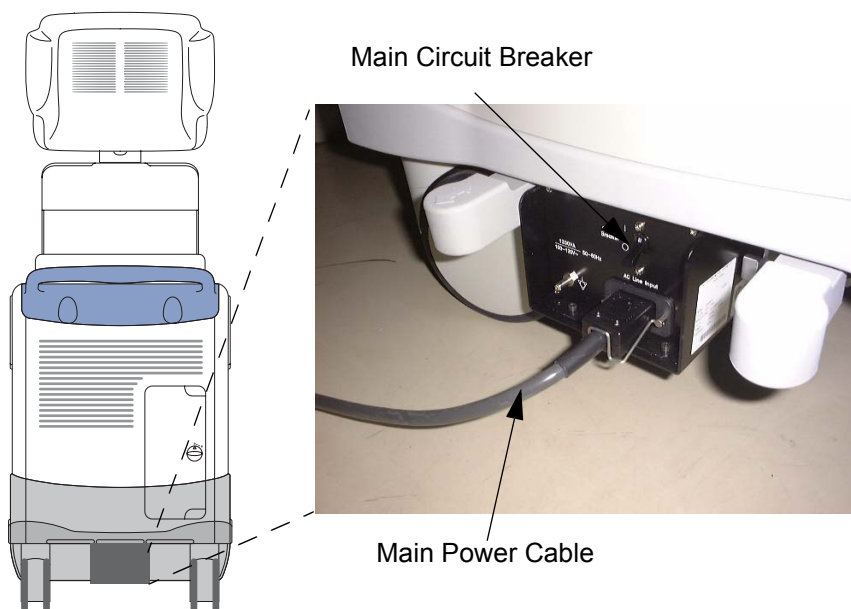

Figure 4-1 Circuit Breaker
- 2.) Switch OFF the Main Circuit Breaker at the rear of the system Refer to Figure 4-1 on page 4-2.
- 3.) Disconnect the Main Power Cable if needed. Refer to Figure 4-1 on page 4-2.